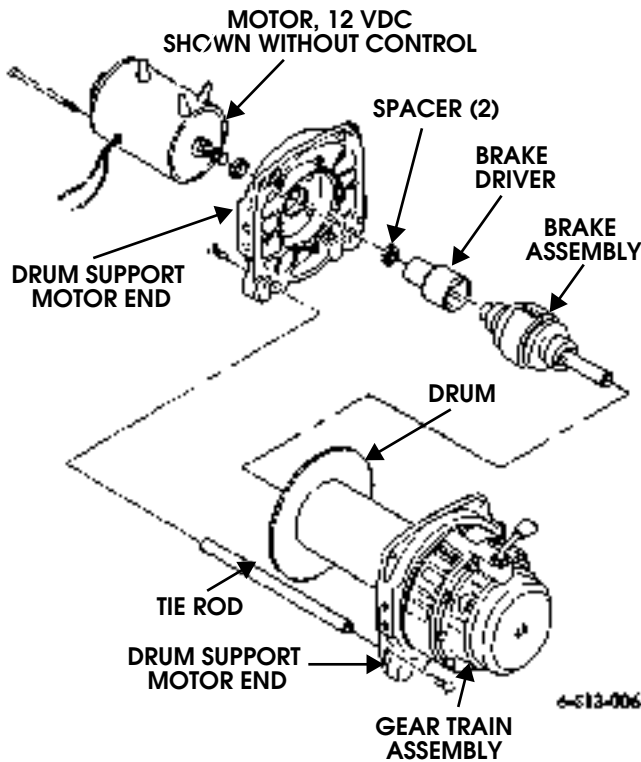

Figure 9-202: Drum Assembly and Gear Train Assembly
20. Install drum assembly on gear train assembly. Rotate drum assembly as needed to engage driveshaft, brake, and output spline (Figure 9-202).